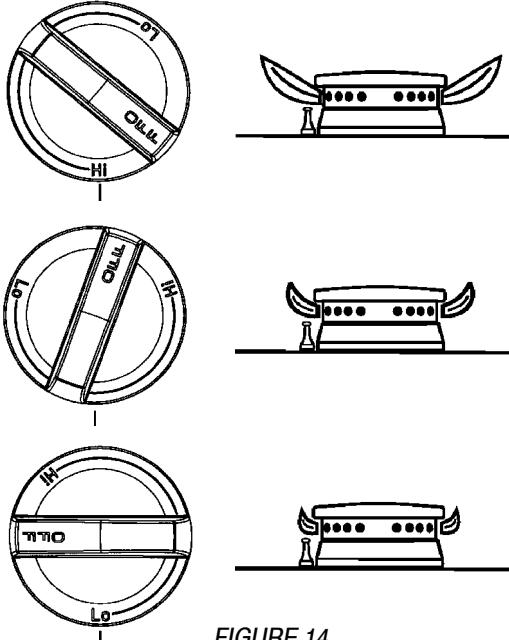

FIGURE 14
After Conversion Steps A, B and C have been completed, check the appearance of each burner flame at the Hi and Lo settings against figure 14. If the flames appear too large or too small, review each step to make sure it was completed correctly.
- Starting from the LP position (see #5 on page 9, under C. LOW FLAME ADJUSTMENT), turn the screw counter clockwise until the flame stabilizes and matches the pictured "low" setting on figure 14. Proper adjustment will produce a stable, steady blue flame of minimum size. The final adjustment should be checked by turning the knob from high to low several times without extinguishing the flame.
After Steps A, B and C have been completed, check the appearance of each burner's flame at the Hi and Lo settings against figure 14. If the flames appear too large or too small, make sure all steps were completed correctly.